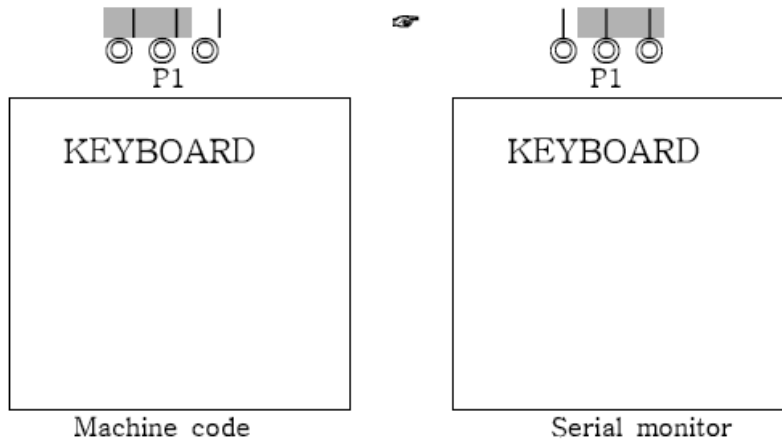

Fig. 1.5 Put jumper in right position for serial monitor
- a) Set the jumper of P1 into right position as shown in Fig. 1.5.